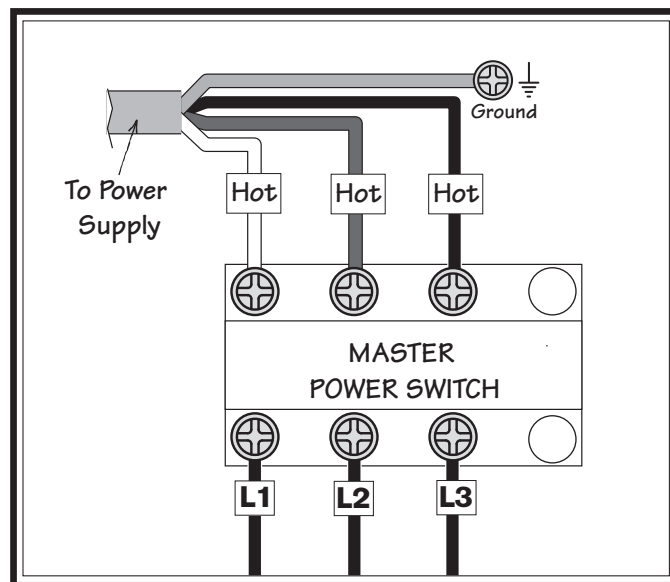

Figure 27. Power connection at master power switch.
3. Connect the incoming hot wires to the upper master power switch terminals and the ground wire to the ground terminal, as illustrated in **Figure 27**.